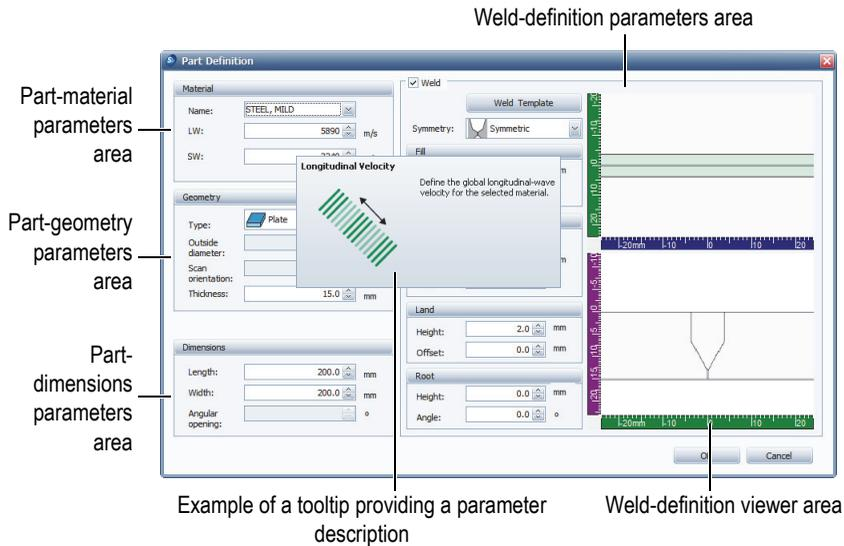

Figure 8-2 The Part Definition dialog box with default parameters
2. In the **Part Definition** dialog box, configure the part and weld parameters (see Figure 8-2 on page 72):